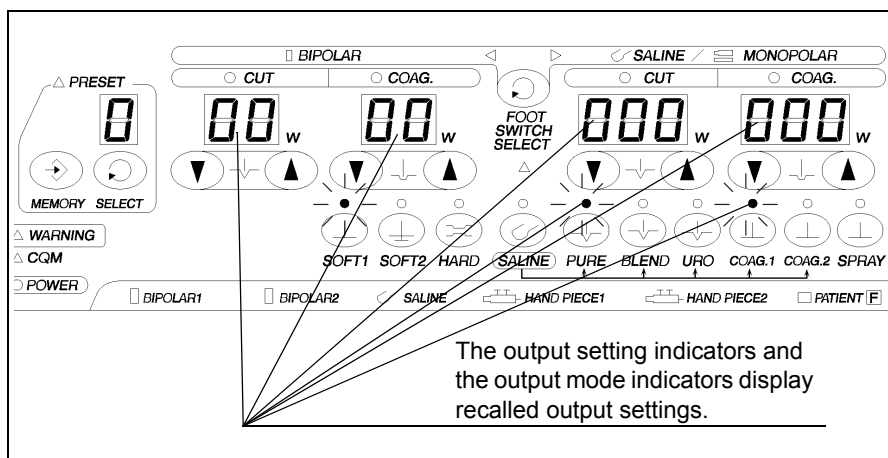

Figure 5.3
3. The output setting indicators and the output mode indicators display the recalled output settings (see Figure 5.3).